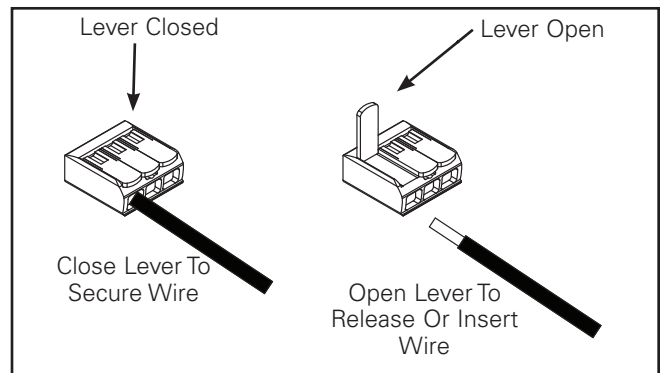

Figure 14
4. Connect supply lead wires to junction box lead wires (line, neutral and ground) in the fixture using the provided lever nut connectors. (Figure 14). Be careful not to leave any bare conductors outside of the lever nut connectors.
5. Lift the orange tab on the lever nut to disengage the wire and close to secure the wire in place. (Figure 14).